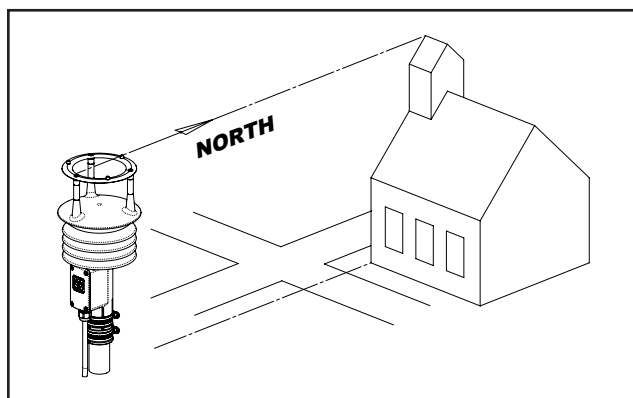

Fig 4.2.2 Sighting of Wind Sensor using Geographic Feature
- 3 Using the transducers as a sighting aid, align the sensor with a remote feature that represents the proper orientation (Fig 4.2.2). After alignment, tighten the mounting post band clamp to secure the position. **DO NOT OVER-TIGHTEN.**